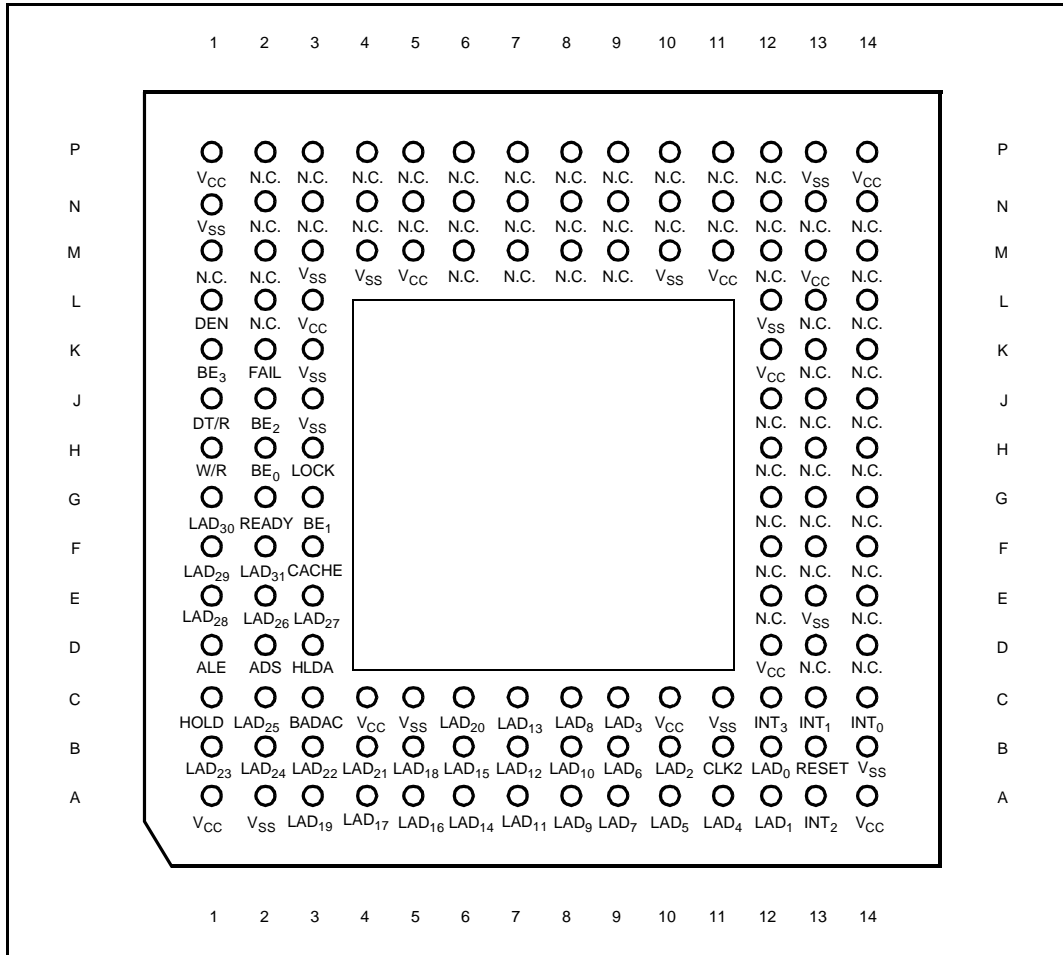
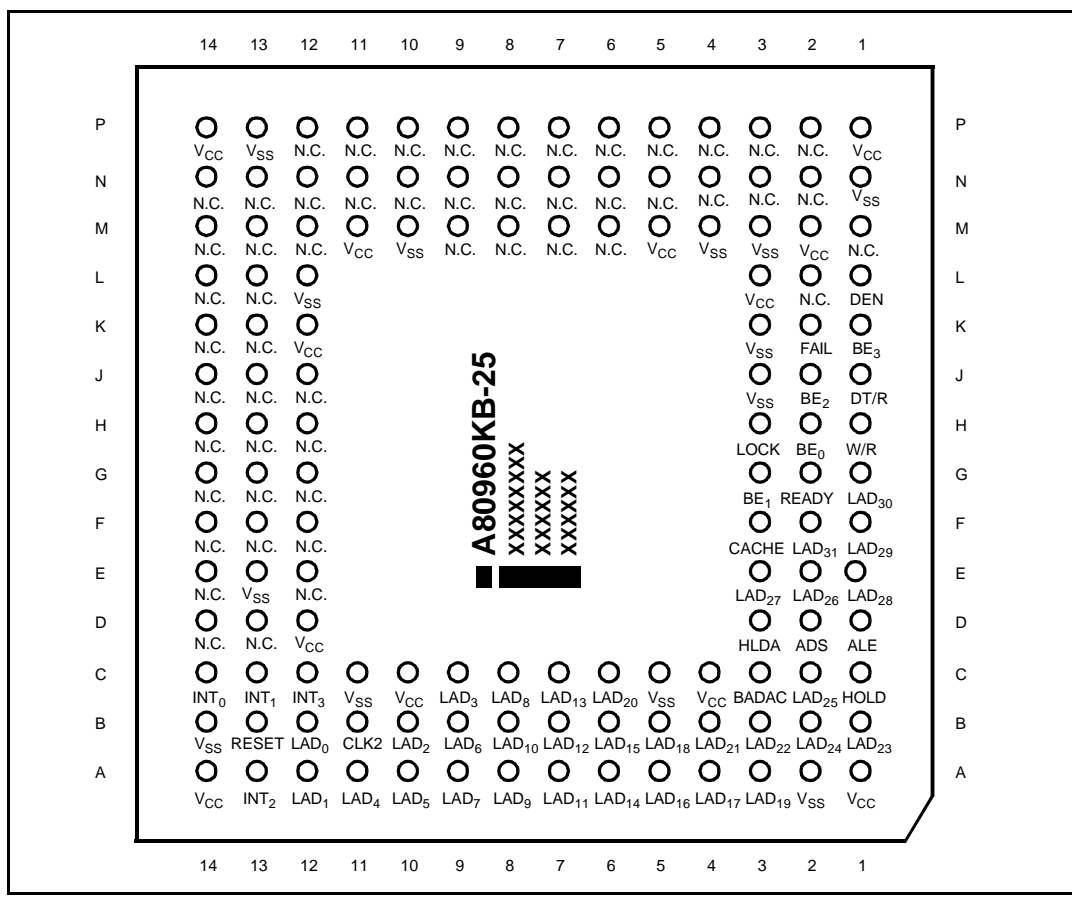
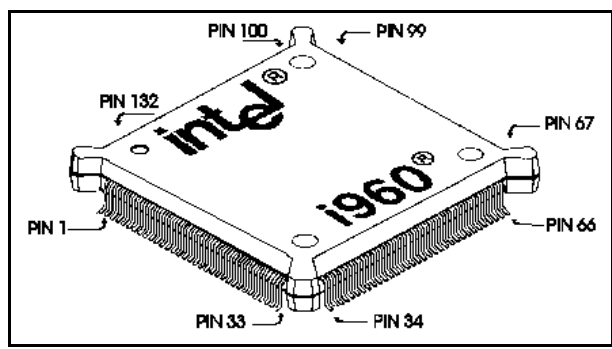

Figure 18. 80960KB PGA Pinout—View from Bottom (Pins Facing Up)
Figure 19. 80960KB PGA Pinout—View from Top (Pins Facing Down)
Figure 20. 80960KB 132-Lead Plastic Quad Flat-Pack (PQFP) Package
- 132-lead plastic quad flat pack (PQFP). This package uses fine-pitch gull wing leads arranged in a single row along the package perimeter with 0.025 inch (0.64 mm) spacing (see Figure 20).
The PGA and PQFP have different pin assignments. Figure 18 shows the view from the PGA bottom (pins facing up) and Figure 19 shows a view from the PGA top (pins facing down). Figure 20 shows the PQFP package; Figure 21 shows the PQFP pinout with signal names. Notice that the pins are numbered in order from 1 to 132 around the package perimeter. Table 10 and Table 11 list the function of each PGA pin; Table 12 and Table 13 list the function of each PQFP pin.